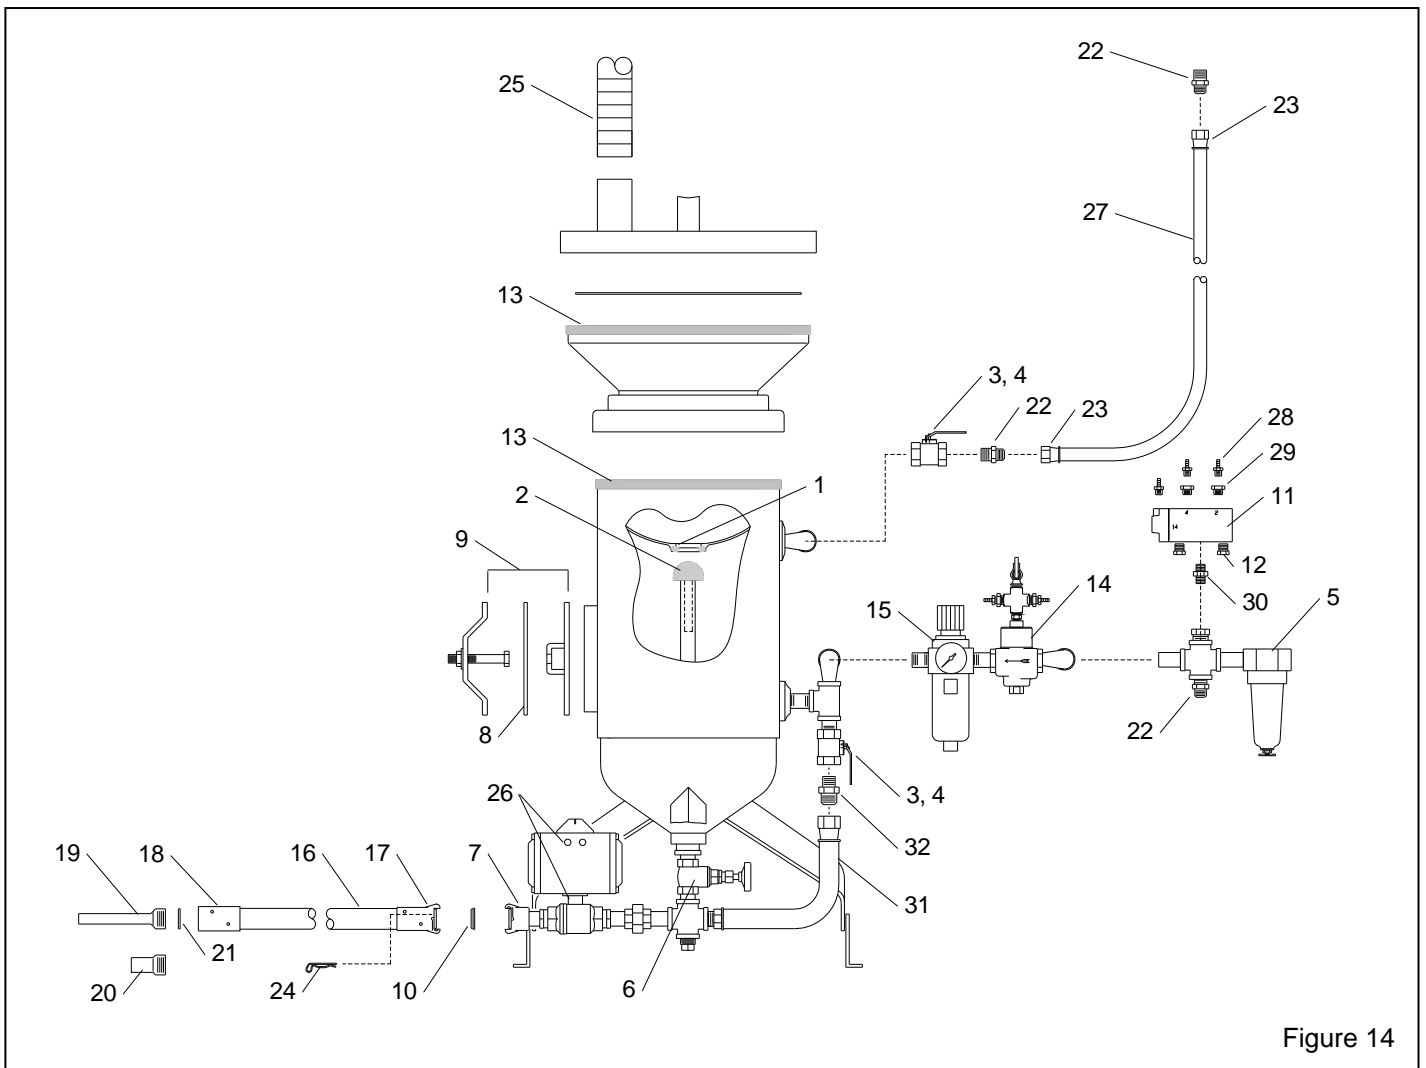

Figure 14
9.7 Blast machine and Accessories, Figure 14